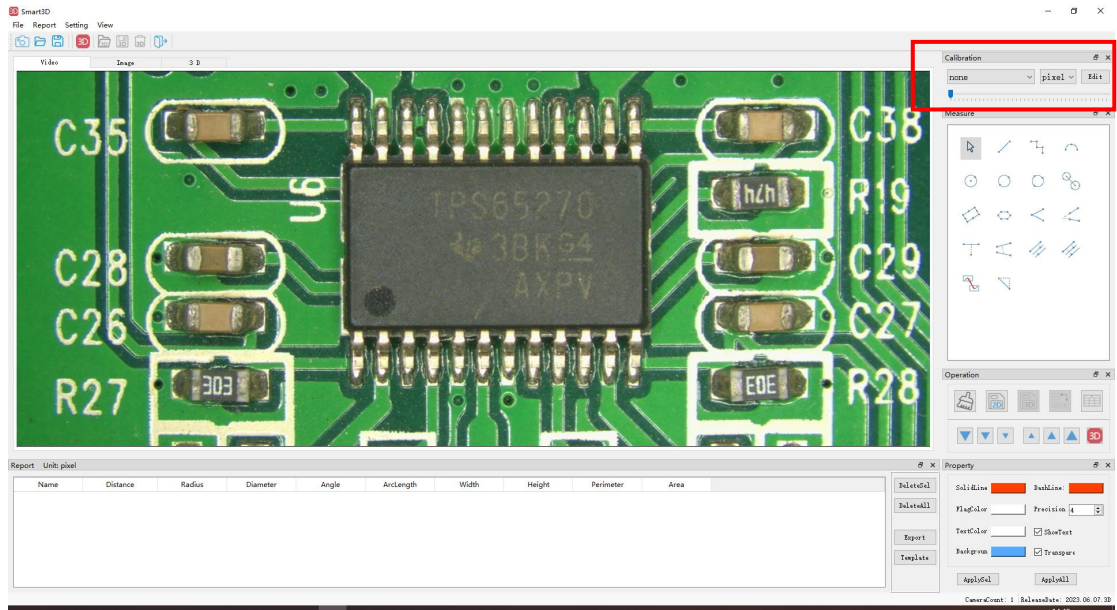
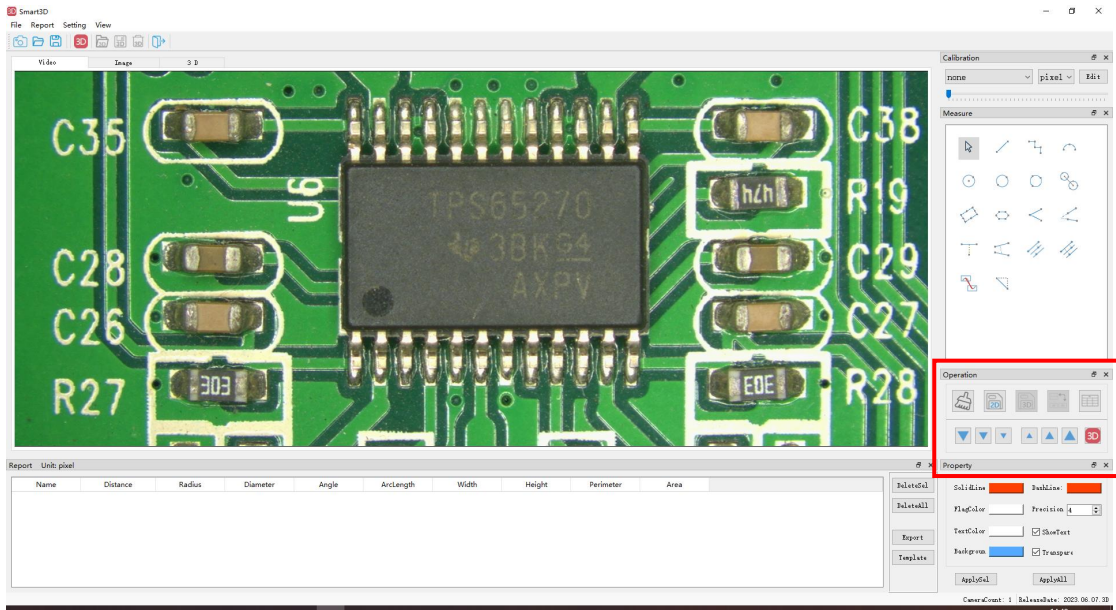

Fig. 1.43 Calibration bar
Fig. 1.45 Operation bar
③ **Calibration bar:** Calibration window with direct magnification selection, see Fig. 1.43
④ **Measurement bar:** the location of the measurement tool, you can select the tool for measurement, see Fig.
⑤ Operation bar: operation window, where the 3D master diagram can be displayed, see Fig. 1.45